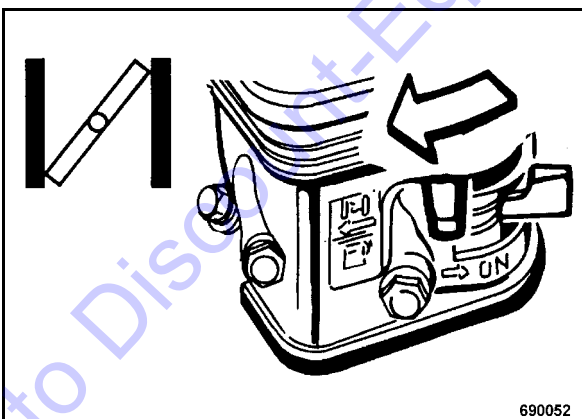

Fig. 18
- Close the choke (Fig. 18) completely by shifting the lever in direction of arrow against the end stop.